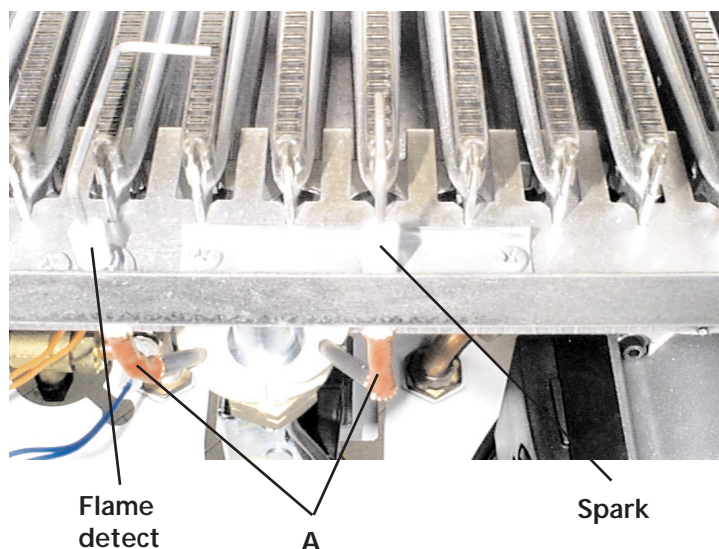

Fig. 38
7.12 Spark or flame detect electrode (fig. 38)
- Identify electrode from fig. 38